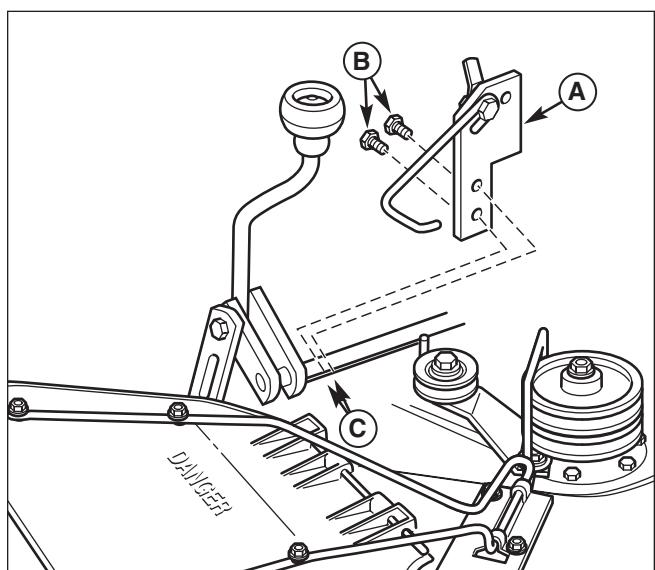

Figure 15. Install Deflector Latch Assembly - 38" Mower
1. Install the deflector latch assembly (A, Figure 15) to existing holes (C) securing with 5/16-18 x 5/8 capscrews (B).